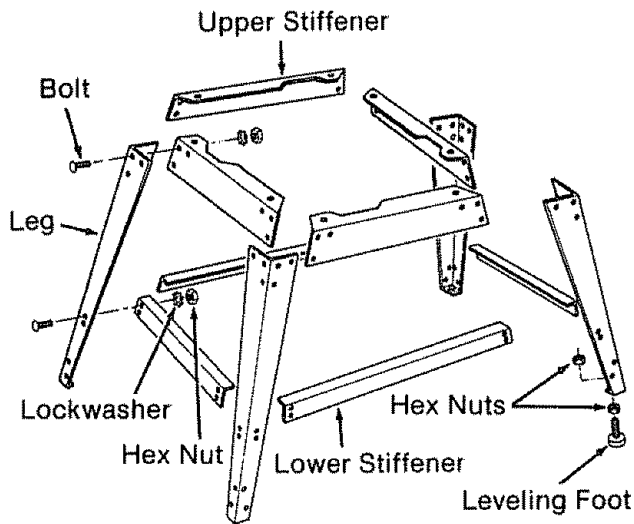

Fig. 33
1. Attach the four (4) *legs* to the four (4) *upper stiffeners* as shown. Three (3) *truss head bolts*, *washers*, and *nuts* are required to fasten each end of *upper stiffener* to a *leg*. Hand tighten *hex nuts*. (Figure 33)
2. Attach the four (4) *lower stiffeners* to the *legs*. Two (2) *truss head bolts*, *washers* and *nuts* are required to hold each end of a *lower stiffener* in place. Hand tighten *hex nuts*.